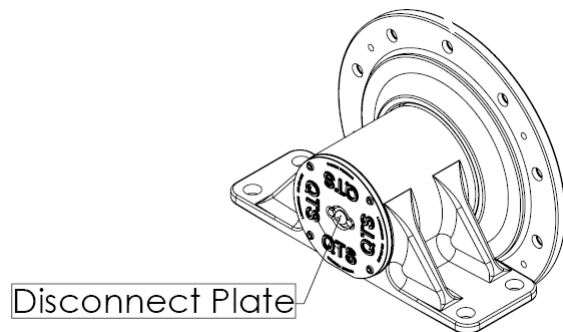

Fig. 6
- e. Back up forklift and bolt the disconnect plate back onto the hub. **(If you are installing a QTS that has the brake disconnect plate on the QTS do not reinstall the factory disconnect plate. Fig. 6)**